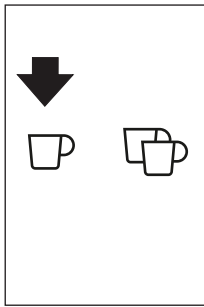

Fig. 19
- ▶ You can make just one coffee at a time by pressing the icon  (B10) (Fig. 19).